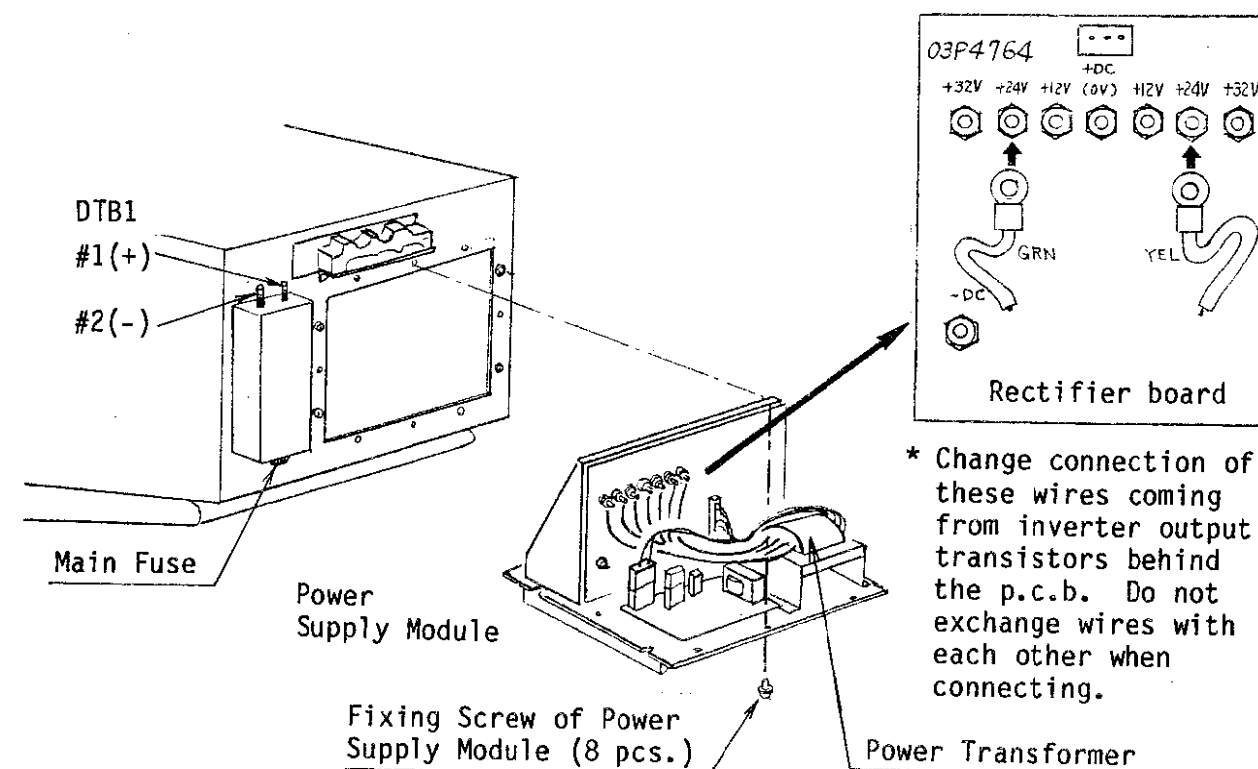

Fig.1-20 Alteration of Power Supply
By changing the main fuse, terminal connections and transistors (Q4 thru Q7) on the RECTIFIER board (03P4764) in the display unit, this radar can be operated from 12V, 24V or 32VDC. See Fig.1-20.
(*): For the 12V sets having the RT-4727-6 (and after) type of the pulse transformer (Fig.1-20), the inverter reference voltage is adjusted for +16.0V at factory.
- 1) Connect a multimeter, set to 50VDC range, across DTB1 #1(+) and #2(-). See Fig.1-20.
- 1) Remove the power supply module as shown in Fig.1-20.